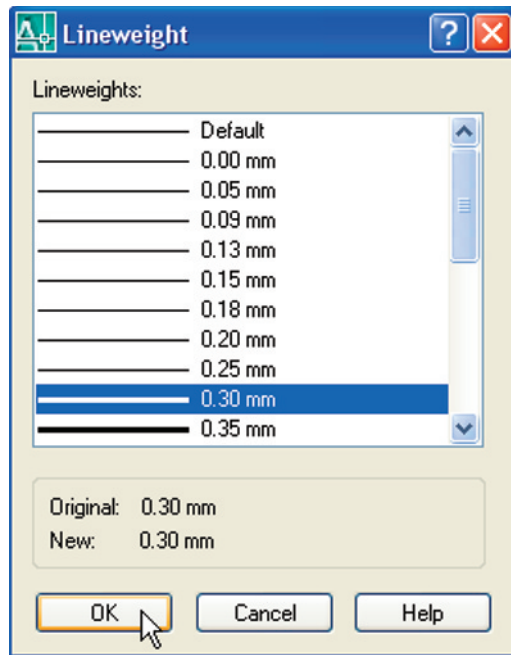

Fig. 4.20 The **Lineweight** dialog
- Click on the any of the lineweights in the **Layer Properties Manager**. This brings up the **Lineweight** dialog (Fig. 4.20). Select the lineweight **0.3**. Repeat the same for all the other layers. Then *click* the **Close** button of the **Layer Properties Manager**.